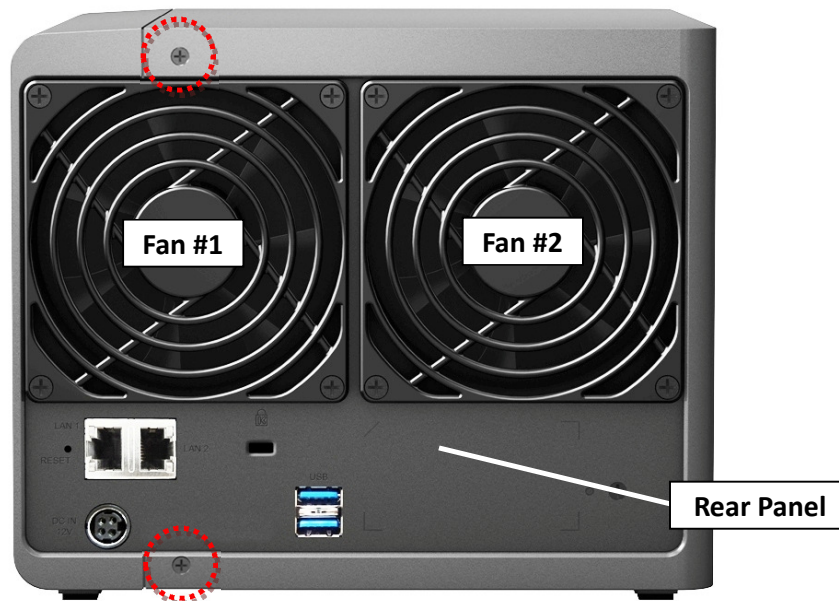

Fig. 41
2.2.12 Fix the two (2) screws on the rear panel (Marked by the red circles) to secure the left cover. (Fig. 41)